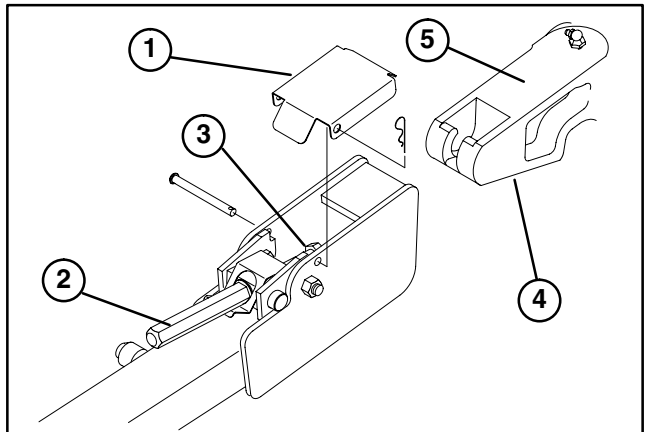

Figure 12
3. Adjust lift arms heights making sure that the machined surface on top of each traction unit lift arm is parallel to ground (Fig. 12). (Raise or lower lift arm casting by pushing up or down from behind the front tires or using wrench in front of traction unit)